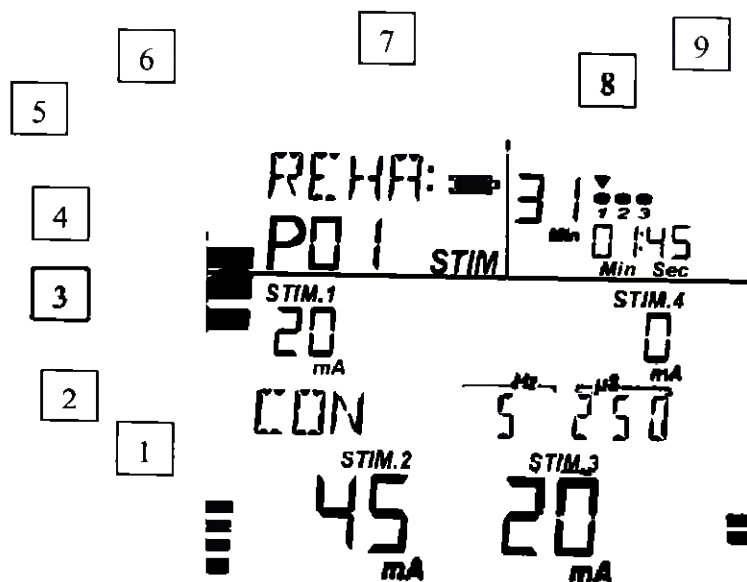

Fig. 6 – Screen: NMS phase
2. If the phase type “Neuromuscular stimulation” is selected, the symbol STIM is displayed (see Fig. 6).
Designations (Fig. 6):